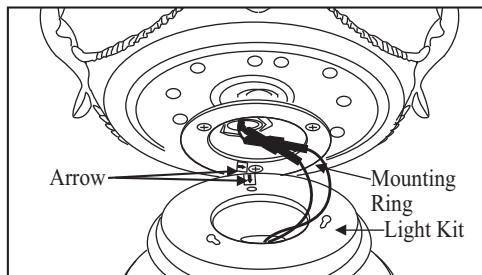

Figure 19
3. Tuck connections neatly into mounting ring, place the key holes on the light plate over the 2 screws previously loosened from the mounting ring, turn light plate until it locks in place at the narrow section of the key holes. Secure by tightening the 2 screws previously loosened and the one previously removed. **NOTE:** When installing the light kit onto the mounting ring, be sure the arrow markings from the screw and key holes are aligned. (Fig. 19)